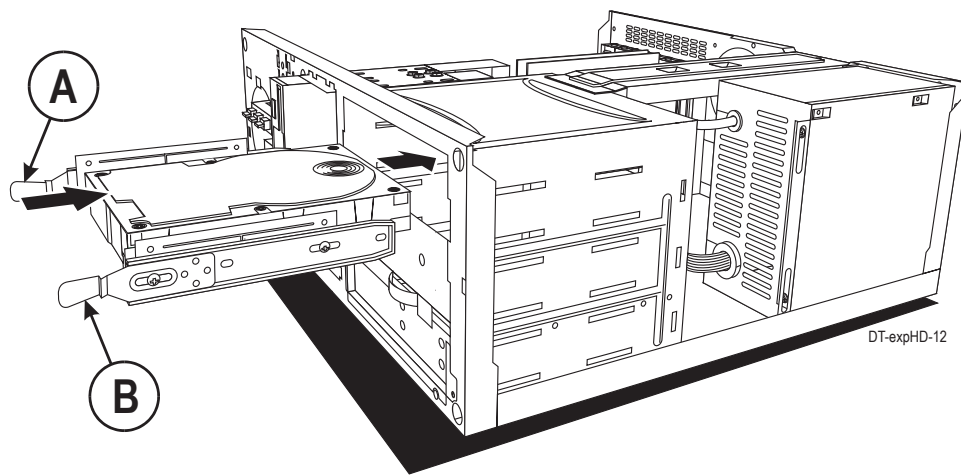

Figure 11
- Push the expansion hard drive into the front of the cabinet until both spring tabs on the slides (A and B on Figure 11) snap and lock the hard drive in place. See Figure 11.